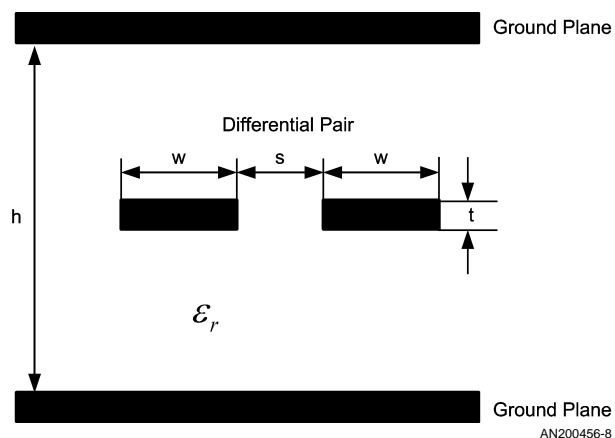

FIGURE 8. Dimensions for Calculating Stripline Impedance
can be calculated using Equation (3) and Equation (4) below along with the dimensions defined in Figure 8. Generally, it will be more difficult to control the impedance of a stripline trace than a microstrip trace. Stripline will also be more likely to have other dynamic traces running on the layer either directly above or below the RSDS™ bus.